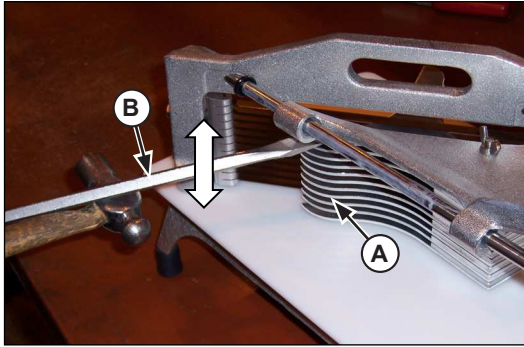

Figure 3. Pusher Head Adjustment Between the Blades.
2. It may also be necessary to adjust the Pusher Head Assembly (A) from the back side of the equipment, as well. If needed, carefully insert a screwdriver (B) between the slots in the Pusher Head Assembly. Gently tap on the screwdriver (B) (up or down) to alter the location of the Pusher Head Fingers so they slide effortlessly through the blades. See Figure 3.